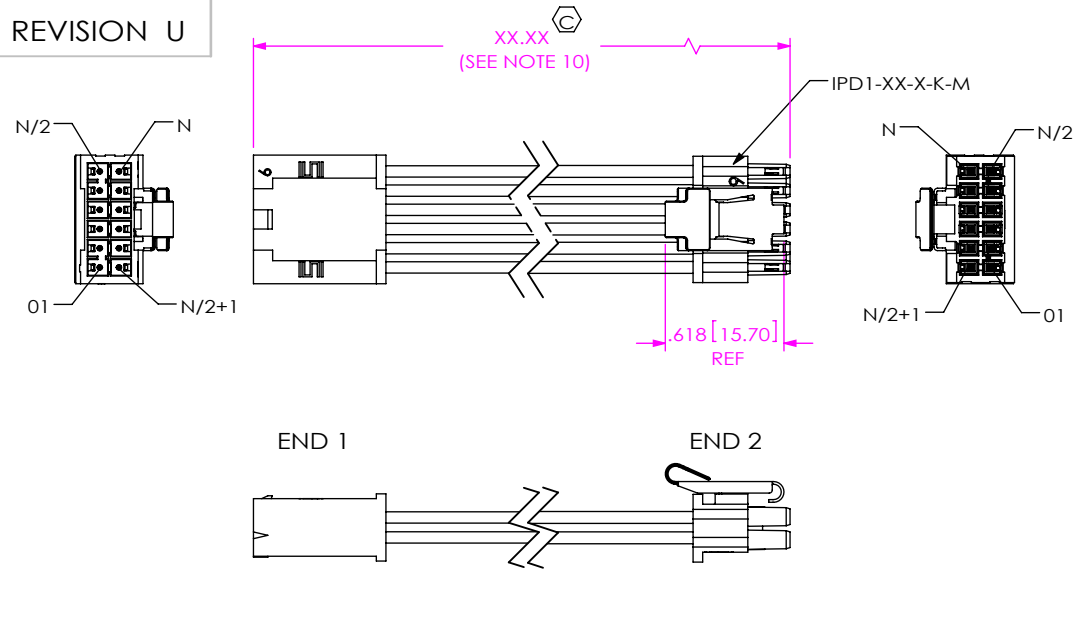

FIG 2
-TUS: TRANSFER LATCH UP, STRAIGHT (SEE FIG 2, SHEET 2)
(SAME AS FIG 2, UNLESS OTHERWISE STATED)
(DIFFERENT AS SHOWN, OTHERWISE SAME AS FIG 2)
(DIFFERENT AS SHOWN, OTHERWISE SAME AS FIG 2 & 9)